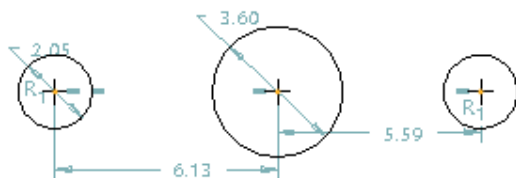

Figure 3-28 Three circles with weak dimensions and constraints
- Draw the sketch using sketcher tools, refer to Figures 3-28 and 3-29.
1. Choose the **Center and Point** button. Draw the circles in a horizontal line, as shown in Figure 3-28.